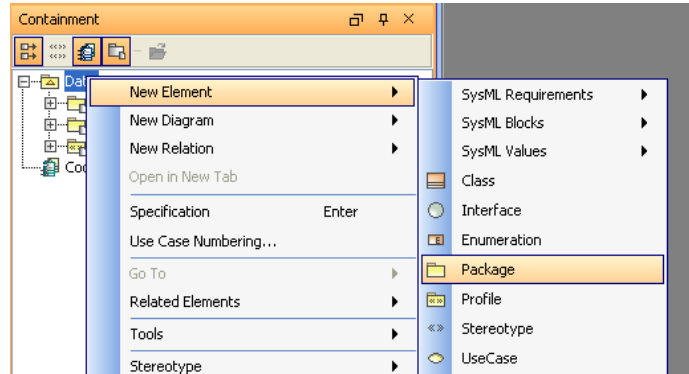

Figure 2.3 Creating Package in Data folder
- a. RC (Right-click) on Data folder in Containment tree (Figure 2.3)